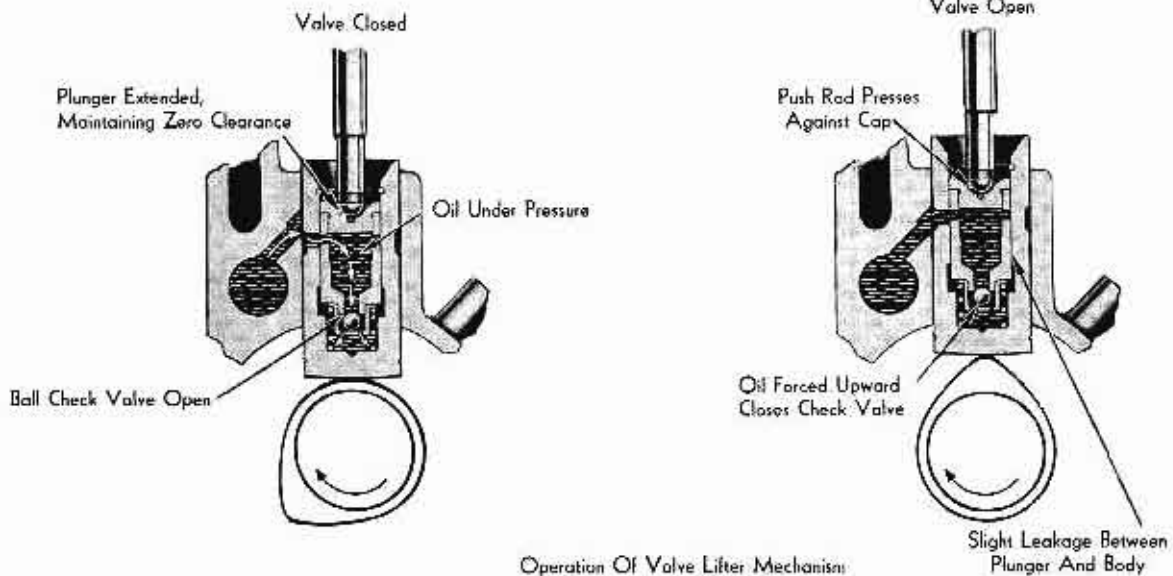

Fig. 10-11 Valve Lifter Mechanism
c. Incorrect clearance between cylinder and plunger, usually caused by mismatching of parts. These parts are carefully fitted in manufacture and are not interchangeable, Fig. 10-11.